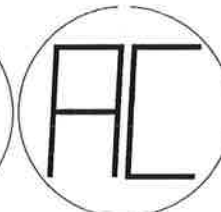
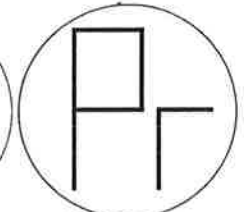

figure 16
figure 17
- Keep the magnet placed over the Logo. Next, a flashing pair of bars “- -” will appear on the display, then the letters “AC” (figure 16) followed by “Pr” (figure 17). Then the letters “AL” will appear.
- Place the magnet over the GMI Logo on the cover (figure 14) of the unit and hold it there until "AC" (figure 16) appears on the display (about ten seconds). Allow about five seconds for the unit to acquire the zero reading before applying the calibration gas. If the GMI Portable Purge Calibrator (P/N 1400150) is **not** used when calibrating the Model S106A with Methane (CH4), the SPAN gas flow rate needs to be 440cc/min to 460cc/min. See Appendix, section 5.4.